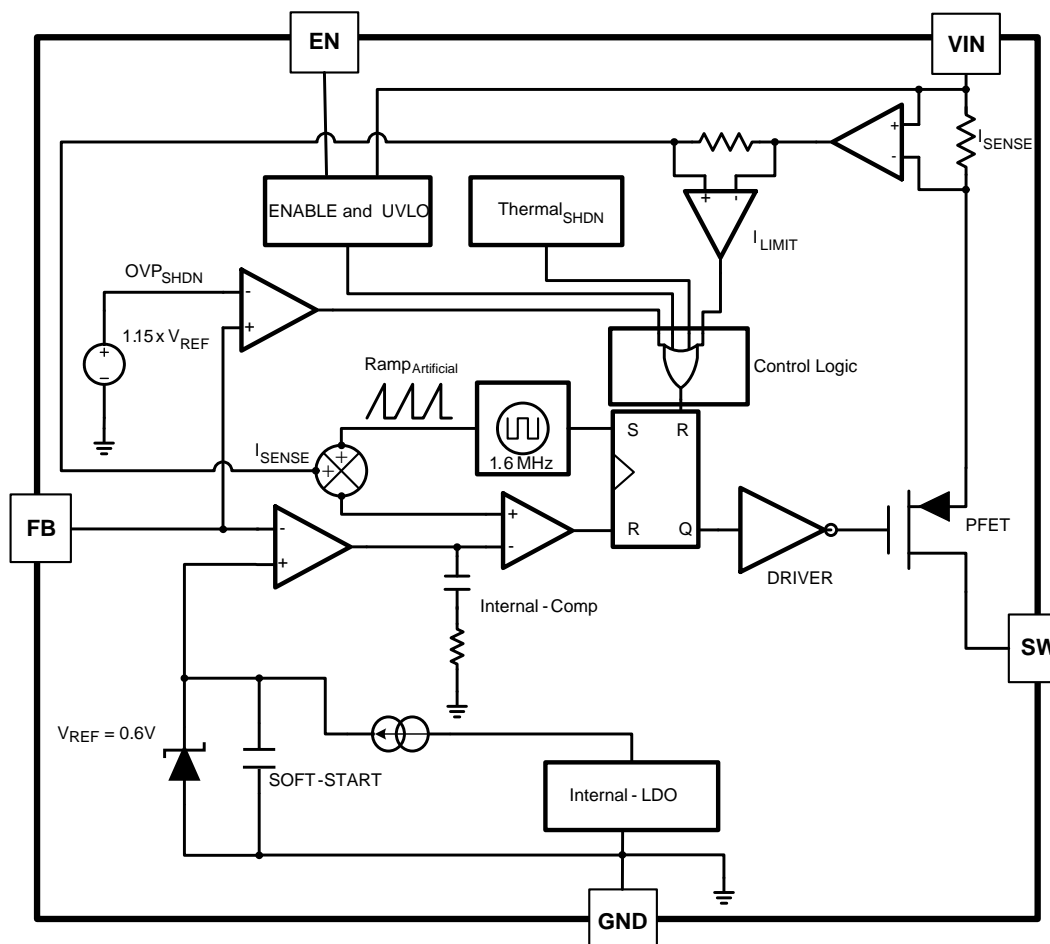
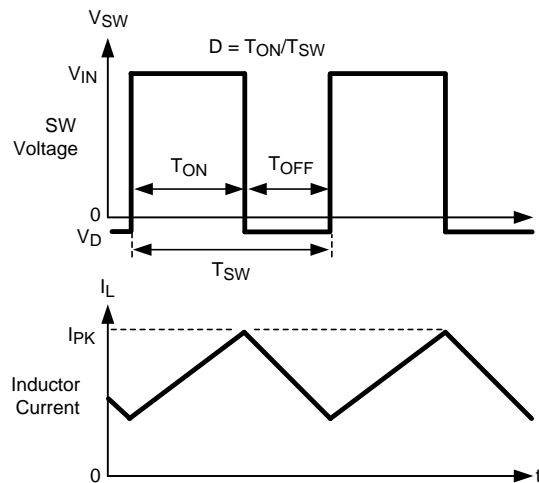

Figure 23.
Figure 24. Typical Waveforms
The LM2832 is a constant frequency PWM buck regulator IC that delivers a 2.0A load current. The regulator has a preset switching frequency of 1.6MHz or 3.0MHz. This high frequency allows the LM2832 to operate with small surface mount capacitors and inductors, resulting in a DC/DC converter that requires a minimum amount of board space. The LM2832 is internally compensated, so it is simple to use and requires few external components. The LM2832 uses current-mode control to regulate the output voltage. The following operating description of the LM2832 will refer to the Simplified Block Diagram (Figure 23) and to the waveforms in Figure 24. The LM2832 supplies a regulated output voltage by switching the internal PMOS control switch at constant frequency and variable duty cycle. A switching cycle begins at the falling edge of the reset pulse generated by the internal oscillator. When this pulse goes low, the output control logic turns on the internal PMOS control switch. During this on-time, the SW pin voltage (V_{SW}) swings up to approximately V_{IN} , and the inductor current (I_L) increases with a linear slope. I_L is measured by the current sense amplifier, which generates an output proportional to the switch current. The sense signal is summed with the regulator's corrective ramp and compared to the error amplifier's output, which is proportional to the difference between the feedback voltage and V_{REF} . When the PWM comparator output goes high, the output switch turns off until the next switching cycle begins. During the switch off-time, inductor current discharges through the Schottky catch diode, which forces the SW pin to swing below ground by the forward voltage (V_D) of the Schottky catch diode. The regulator loop adjusts the duty cycle (D) to maintain a constant output voltage.